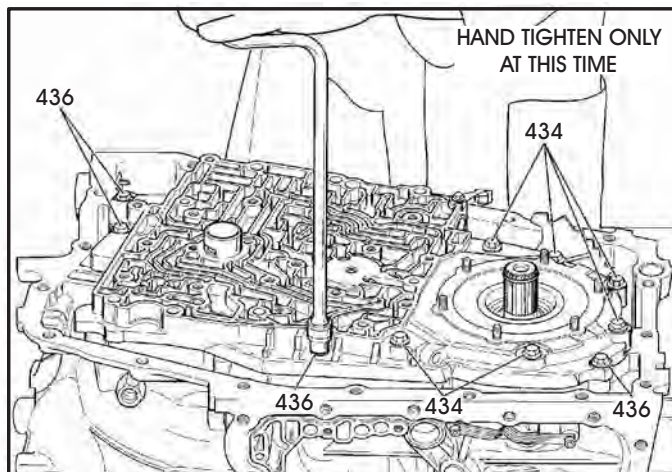
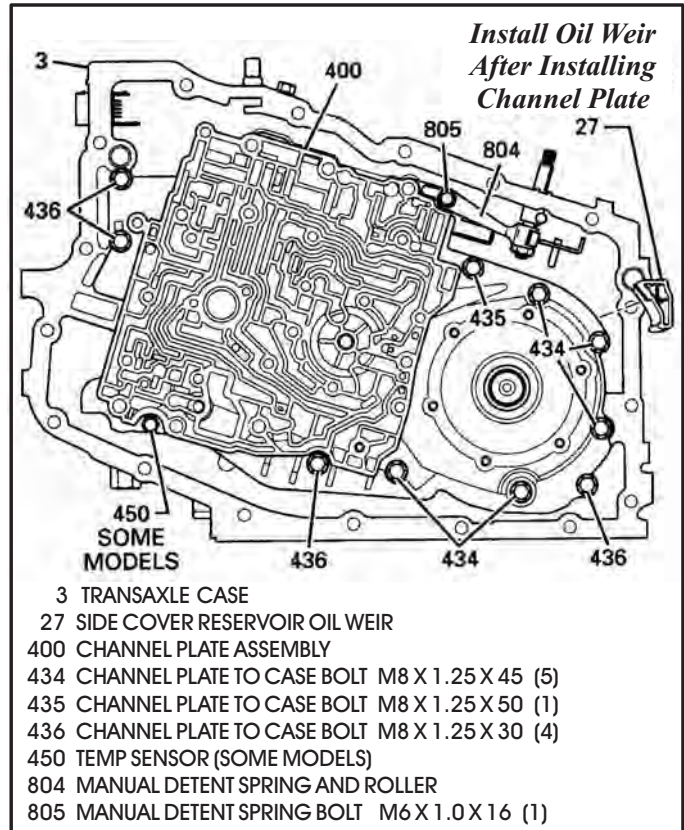

Figure 195
Figure 196
63. Install the channel plate to case bolts in their proper locations, as shown in Figure 196, and **hand tighten** only with speed handle at this time, as shown in Figure 195.